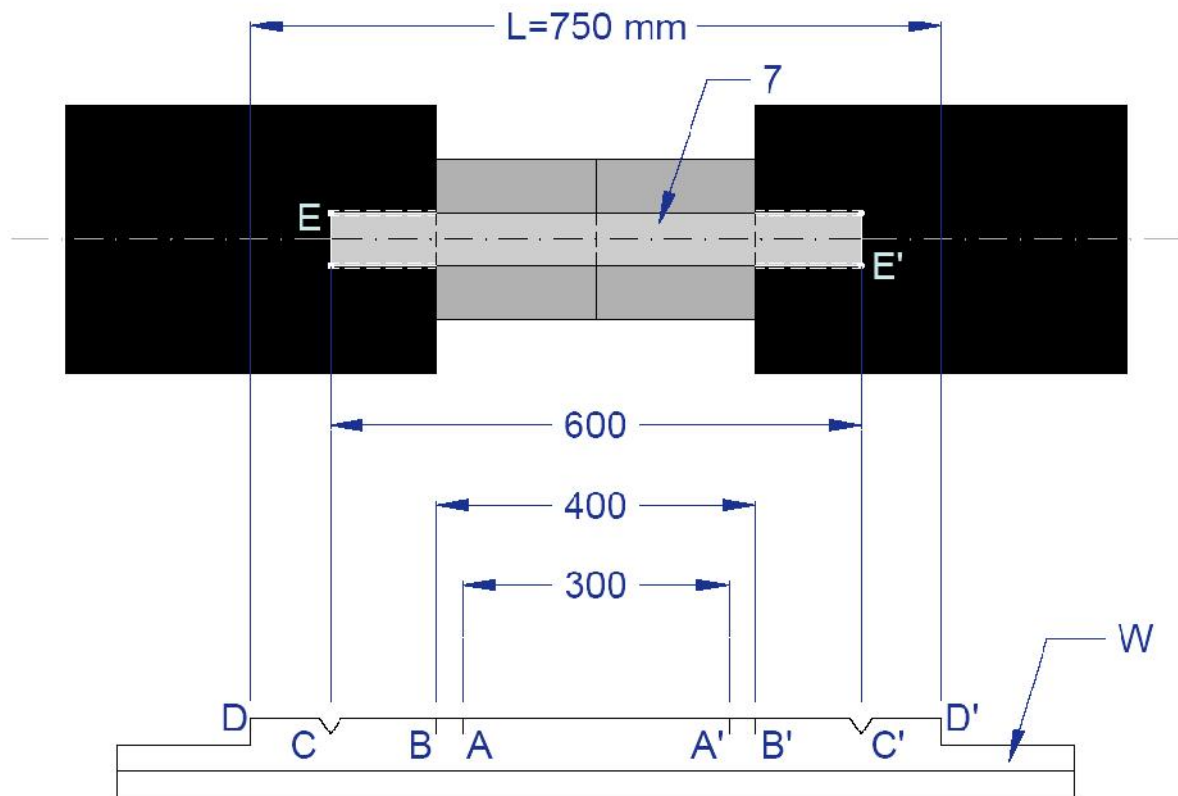

Fig. 2. Marking off with a template
3.2 With the template and a marker (see Fig. 2) mark the position of: